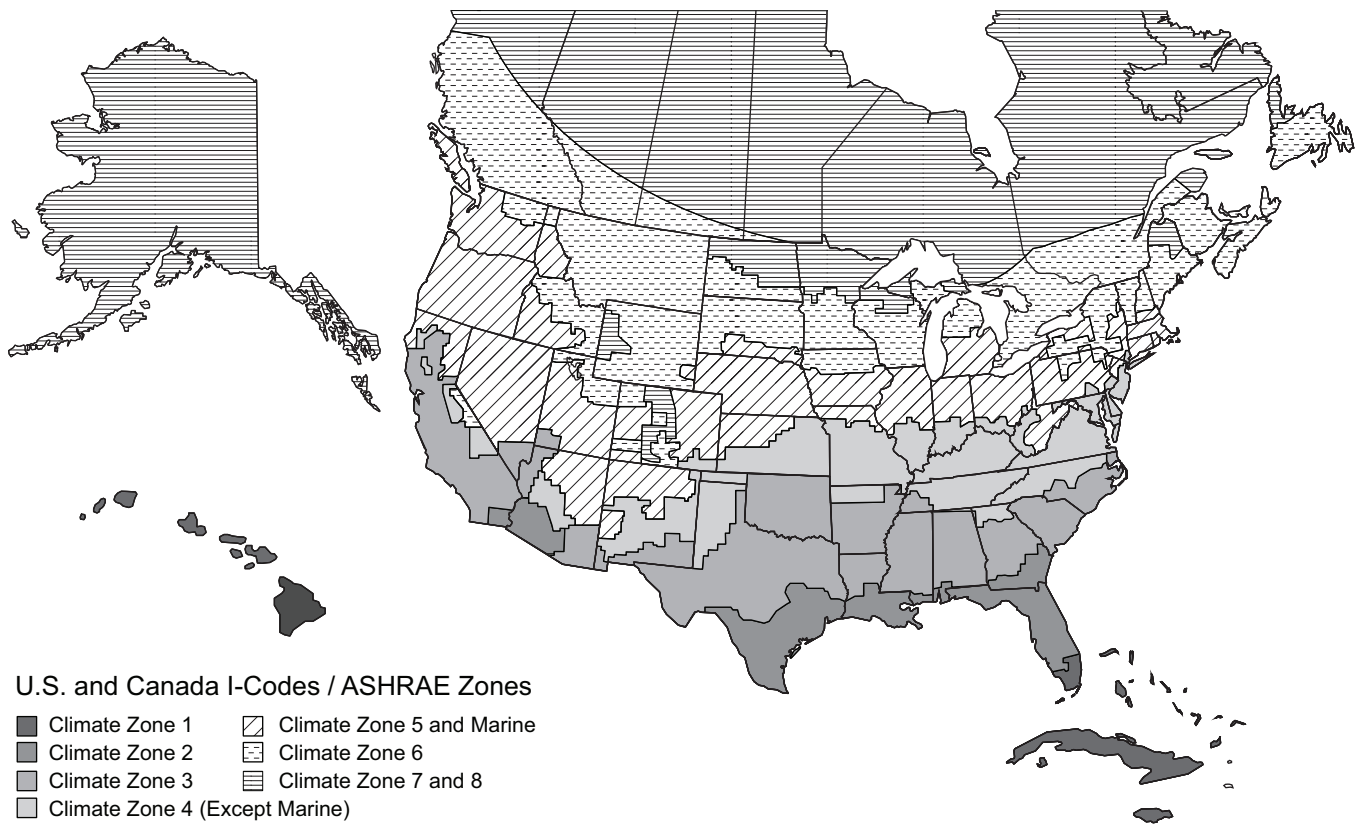

Fig. 74 — U.S. and Canada Climate Zones
- a Refer to Fig. 74 for map of U.S. and Canada climate zones.